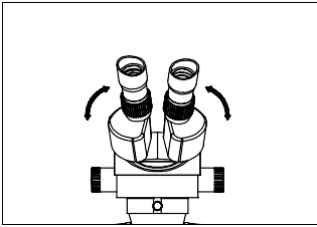

Fig.4
- 1) Adjust the prism housing along the direction of the arrowhead of Fig.4 till the observation is comfortable.